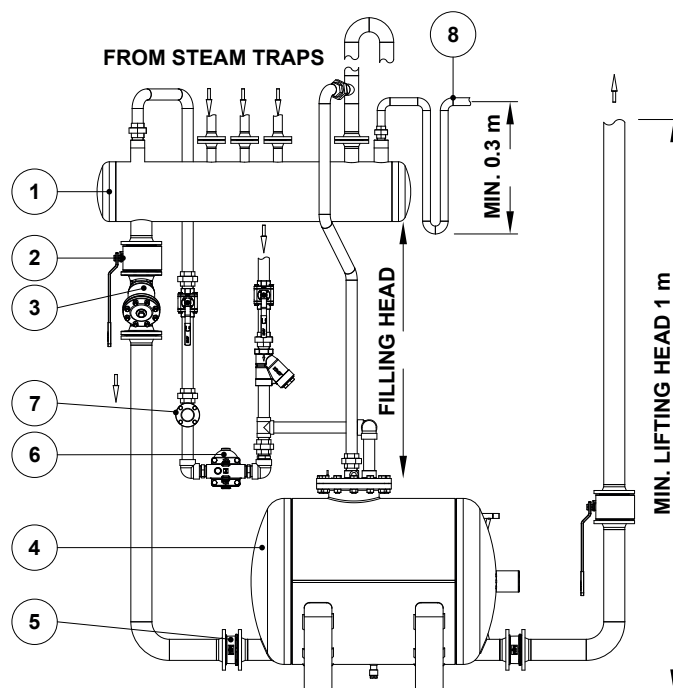

Fig. 1
INSTALLATION: Horizontal installation. An example is shown in Fig. 1. See IMI – Installation and maintenance instructions.
4. Available filling head (see Fig. 1) in mm or any other dimension that allows its determination.